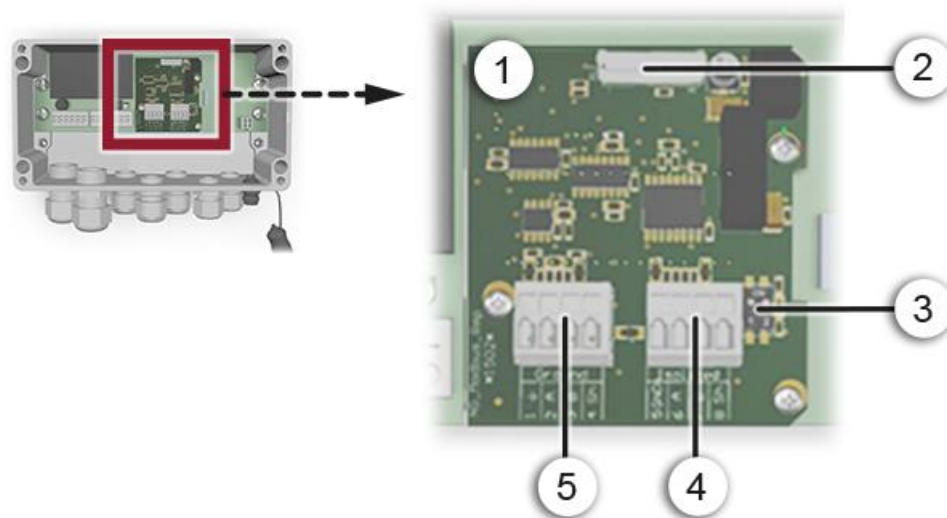

Figure 14: Overview of the Modbus RTU module in the SIPOINT 2
①	Fieldbus interface (connection print) for Profinet IO	②	Connector for SIPORT 2 print
③	Ethernet port 1	④	Ethernet port 2
- If the photometer is used as a terminal device, DIL switch S2/1 must be switched ON on the connection module (Figure 14, pos. 3).